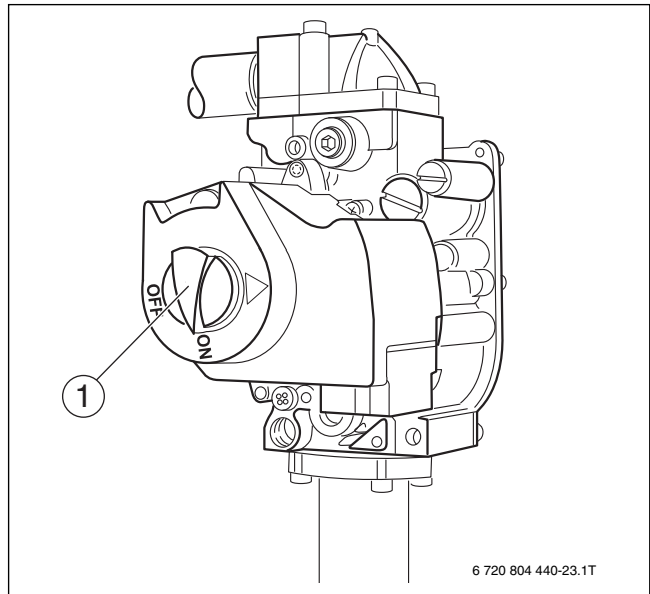

Fig. 23 Gas valve
- ▶ Never use excessive force on the ON/OFF knob (→ figure 23).
- ▶ Turn ON/OFF knob (→ figure 23) counterclockwise to the ON position.